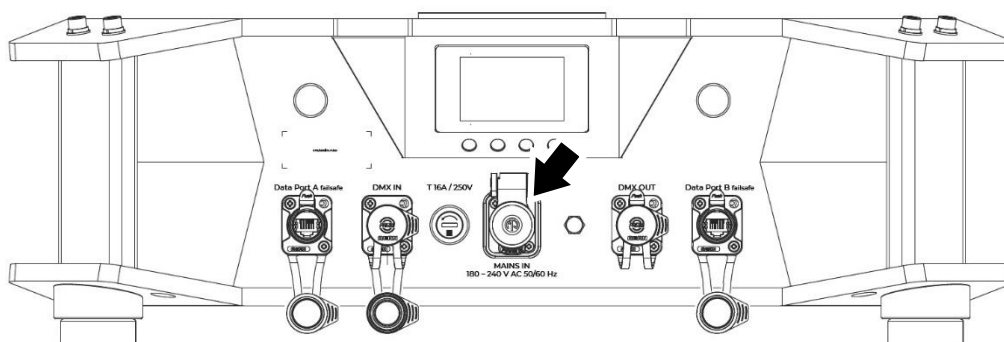

Figure 6. Mains power IN socket
2. Remove the rubber connector seal from the powerCON TRUE1 TOP MAINS IN socket (arrowed in Figure 6). Line up the keys in the connector correctly with the keyways in the socket.